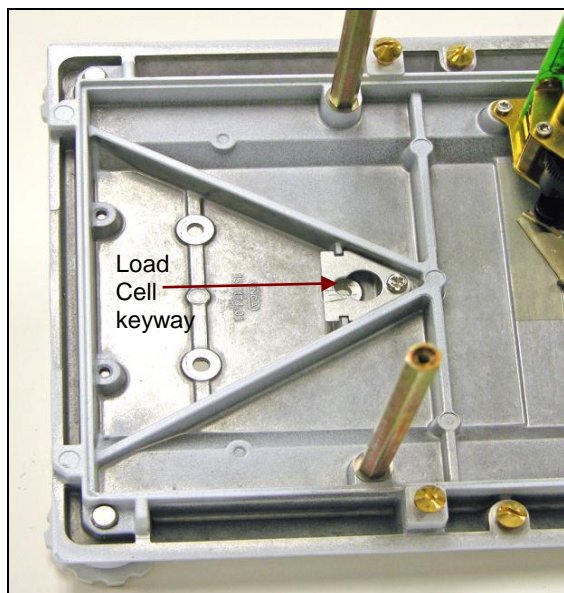

Figure 3-90. Load Cell Chassis with keyway at point of triangle.
1. Place Load Cell in the Chassis. Make sure to set the front foot in the keyway. (See Figure 3-90.) Install 3 screws in bottom of Chassis. Do NOT tighten the 3 screws.